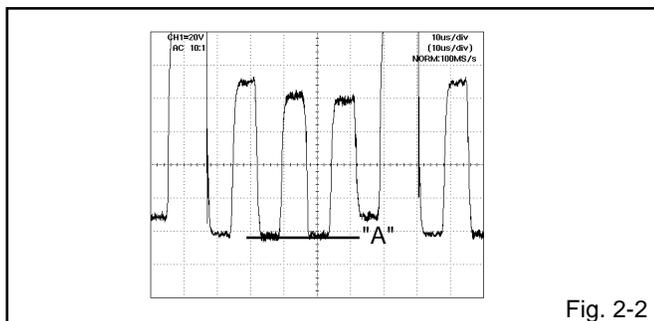

Fig. 2-2
4. Press the VOL. UP/DOWN button on the remote control until the section "A" becomes as straight line (**Refer to Fig. 2-2**)